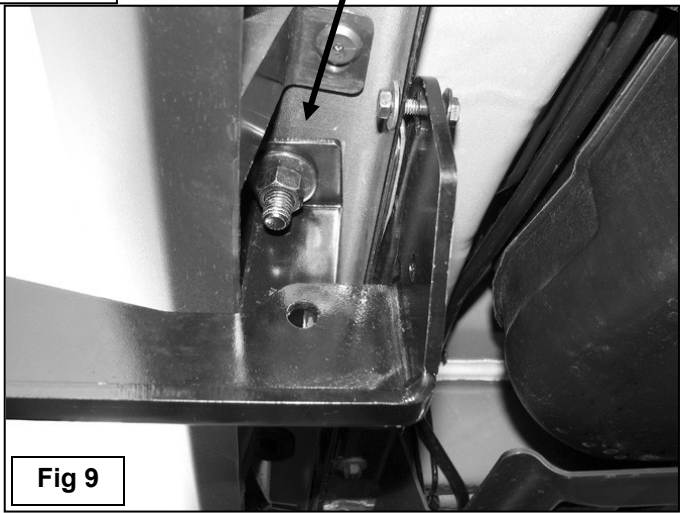

Fig 9
6. Next, select the Driver Side Rear Mounting Bracket. Bolt the Mounting Bracket to the back of the pinch weld with (1) M6 x 25mm Hex Bolt, (2) M6 Flat Washers and (1) M6 Nylon Lock Nut installed in the rearmost mounting hole, (Figure 9). Hang the Bracket from the previously installed forward Bolt Plate with (1) M10 Flat Washer, (1) M10 Lock Washer and (1) M10 Hex